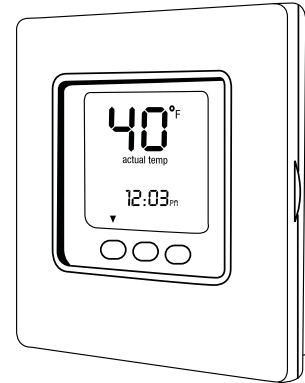

Fig. 16 – Lowest Temperature Setting
- Set your room thermostat to the lowest temperature setting and set the “MODE” to “OFF.” See Fig. 16.